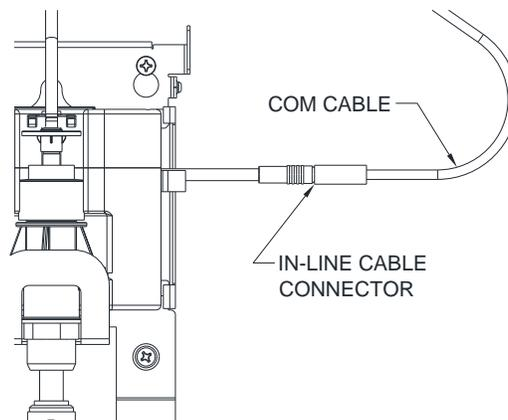

Fig. 4
4. Connect COM cable with multi-pin socket into control unit inline cable connector. (See Fig. 4)